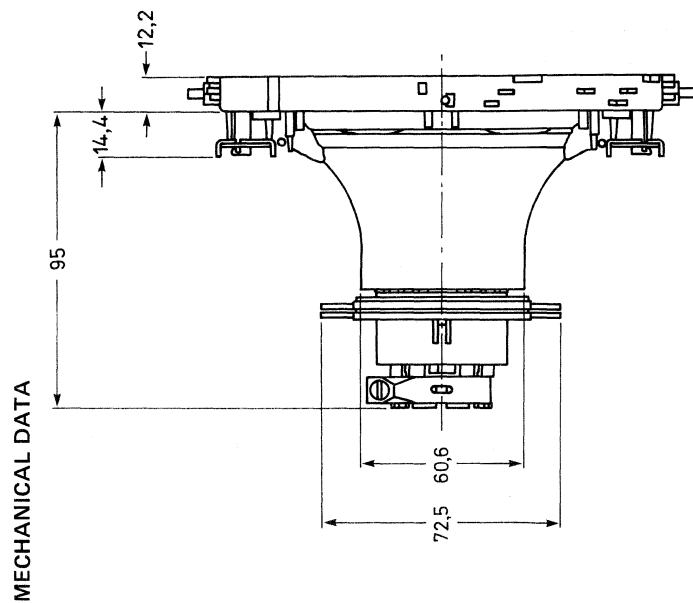
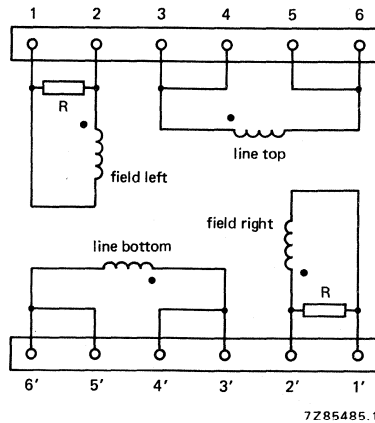

Fig. 1 Deflection unit AT1039/05.
Fig. 2 Diagram of line and field coils; R = 270 Ω . The beginning of the windings is indicated with ●.
If a further improvement of raster geometry is required use can be made of correction magnets*, which must be fitted to mounting posts (1). The unit has solder pins for connection. The pin numbering in Fig. 1 corresponds to that in Fig. 2.